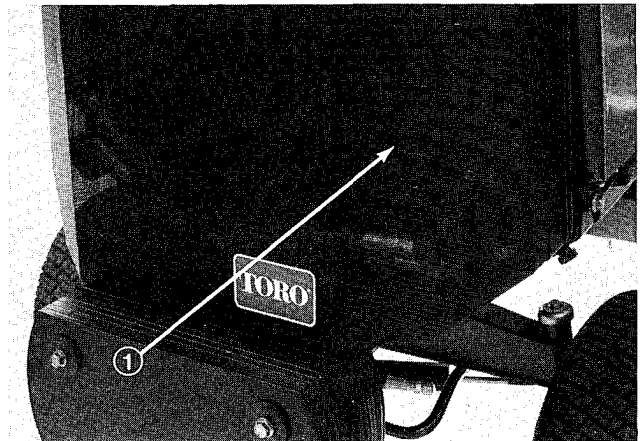

Figure 38
ENGINE COOLING SYSTEM (Fig. 38–39)
- B. Unscrew knobs and remove rear screen (Fig. 38). Clean screen thoroughly.